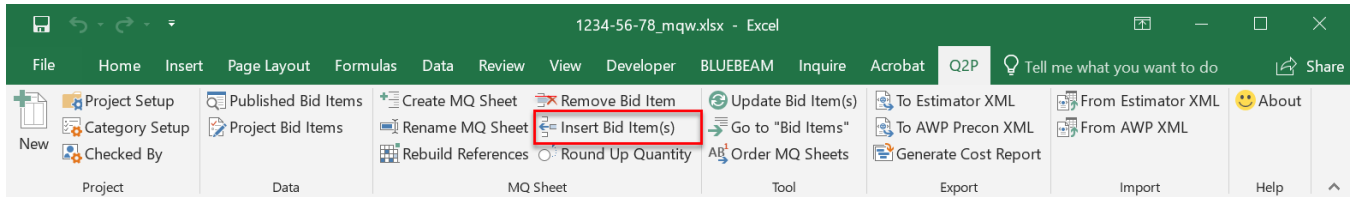

Figure 8.4 "Insert Bid Item(s)" command.
- From the *MQ Sheet* section of the Q2P ribbon, select **Q2P > MQ Sheet > Insert Bid Item(s)** (Figure 8.4).